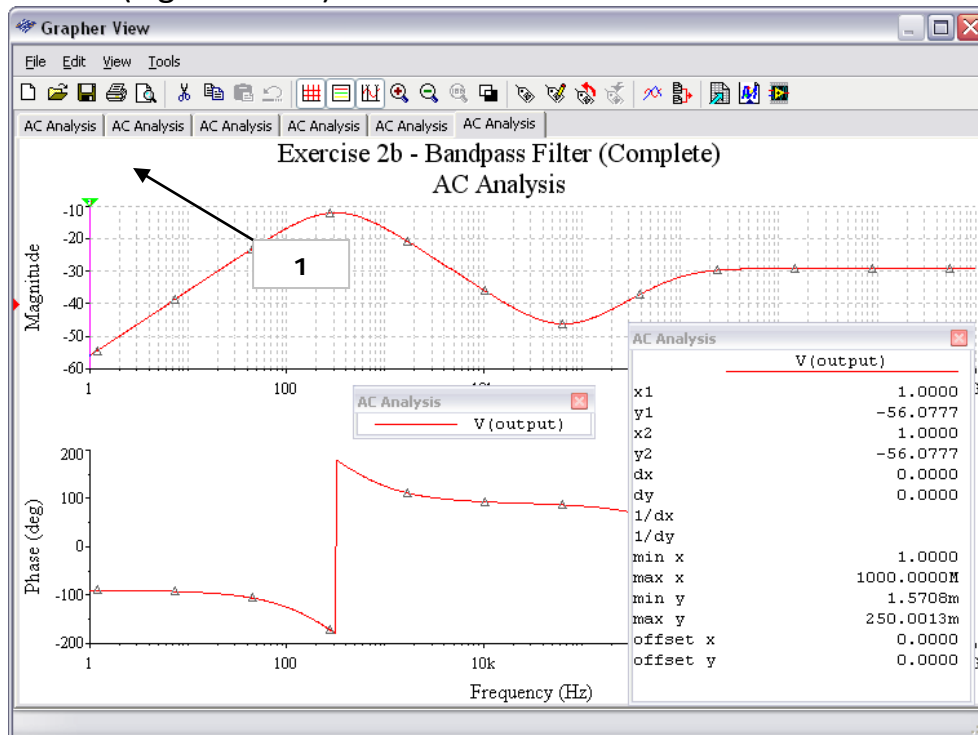

Figure E2-22. Grapher View with grid, legend and cursors
- Click on the **Show/Hide Cursors** button (Figure E2-20-3). The value box will appear, displaying the various x and y co-ordinate values as measured by the cursors (Figure E2-22).